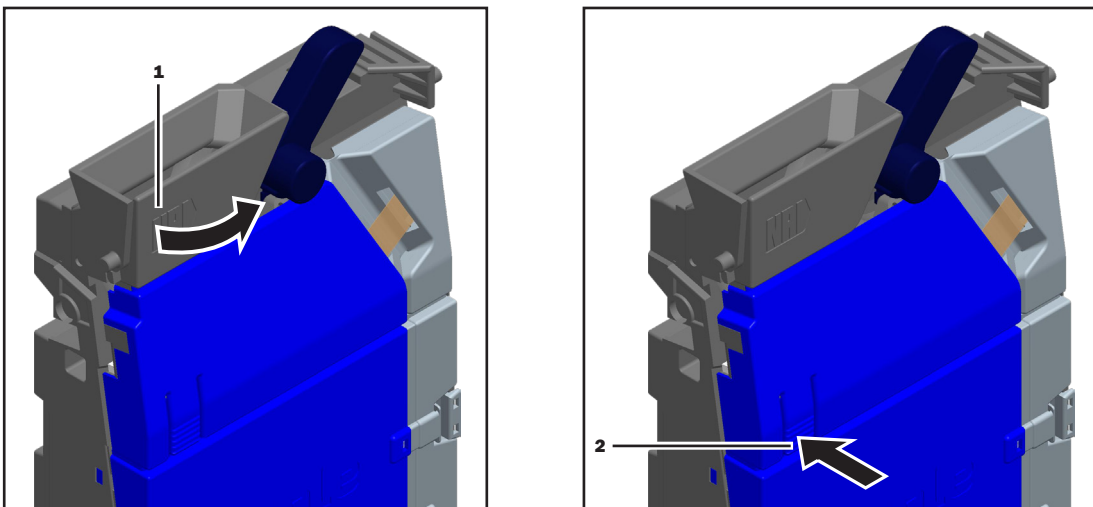

Fig. 8: Opening and closing the flight deck of the coin validator
- 2 Pull the coin insert funnel [Fig. 8/1] at the front and open the flight deck widely - beyond the first stop.
- 7 Close flight deck and press closing device [Fig. 8/2] so that the flight deck audibly clicks into place.